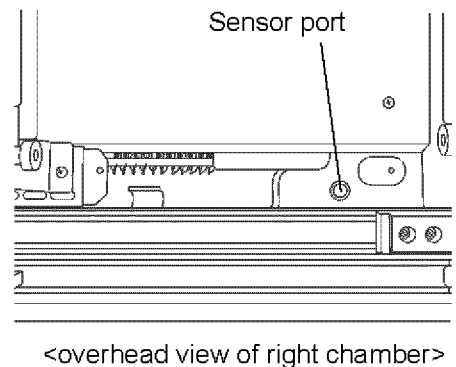

Fig. 17
6. Take out the insulation in the sensor port and pass the recorder sensor into the chamber through the sensor port from the space for automatic temperature recorder. [Fig. 17]